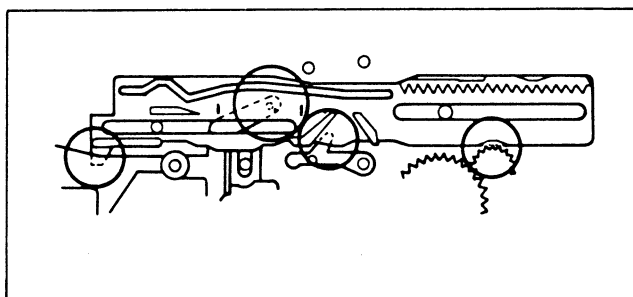

Fig. 3-38.
- 2) Push mode arm 22 in the direction of arrow A, and mount the M slider 16, noting the positioning of the other parts in Fig. 3-38. and mount the stopper washer 21.